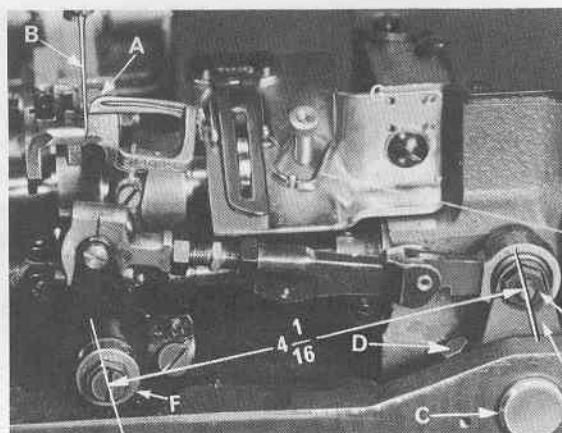

Fig. 5
Insert looper (A, Fig. 5) in the looper rocker and turn handwheel in operating direction until the point of the looper, moving to the left is even with the left side of the needle (B). Note the height of the eye of the needle with respect to the looper point, then turn handwheel in the reverse direction until the looper point again moves to the left, and is even with the left side of the needle. If the motions synchronize, the height of the eye of the needle with respect to the looper point will be the same. A variation of .005 inch (.127mm) is allowable. If the distance from the eye of the needle to the point of the looper is greatest when the pulley is turned in the operating direction, move the looper drive shaft synchronizing stud (C) to the rear. Moving it in the opposite direction acts the reverse.
Moving of the looper drive lever shaft synchronizing stud is accomplished as follows: Loosen the clamp screw (D, Fig. 5) in the looper drive lever (G). To move stud to rear (away from operator), a light tap with a small hammer, directly on the stud, is all that is required. To move stud forward (toward operator), remove the cloth plate, throat plate support, oil reservoir top cover and oil reservoir back cover, then, a light tap on the looper drive lever rocker shaft, toward the operator, is all that is required.
NOTE: Looper drive lever (G, Fig. 5) has an oil seal collar and an "O" ring between it and the bed casting. All end play must be removed from the looper drive lever
With the looper at the extreme right end of its travel, check the location of the center line of the right looper connecting rod bearing, using gauge No. 21227 CX. Remove nut (E, Fig. 5) and place hole in gauge over thread stud. The left end of the gauge should locate against the right side of the looper rocker cone (F). If adjustment is necessary, loosen the clamp screw (D) and reposition the looper drive lever (G) as required. If gauge is not available setting can be checked with a scale. The distance between the center line of the looper rocker cone and the center line of the looper lever stud should be $4 \frac{1}{16}$ inch (103.19 mm) (Fig. 5). For Class 56700 machines used gauge No. 21227 CX-56, etc. Retighten clamp screw (D) referring to "NOTE" in preceding paragraph.